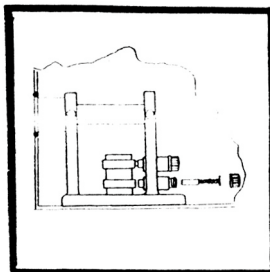

Figure 4
4. If no voltage is present across the generator, remove the sideplate and check the condition of the brushes and slipring. This is the most common fault with the wind turbine. Ensure that the brush is touching the slipring. If not, replace brushes (Part No. 917-001). If the slipring is dirty or contaminated with black deposits, the brushes may be sticking. This can be cleaned using very fine emery paper (Fig.4).